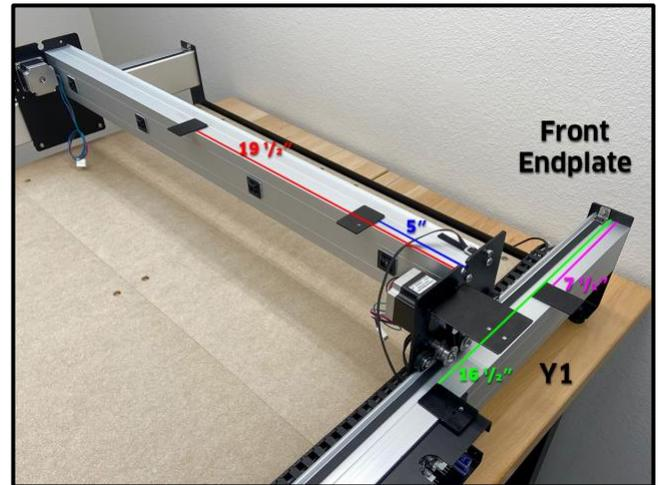

Figure 18
1. Attach one (1) middle support plate and one (1) tail support plate onto the X-rail. See **Fig. 18** (image from rear).
2. Attach one (1) middle support plate and one (1) tail support plate onto the Y1-rail. See **Fig. 18**.